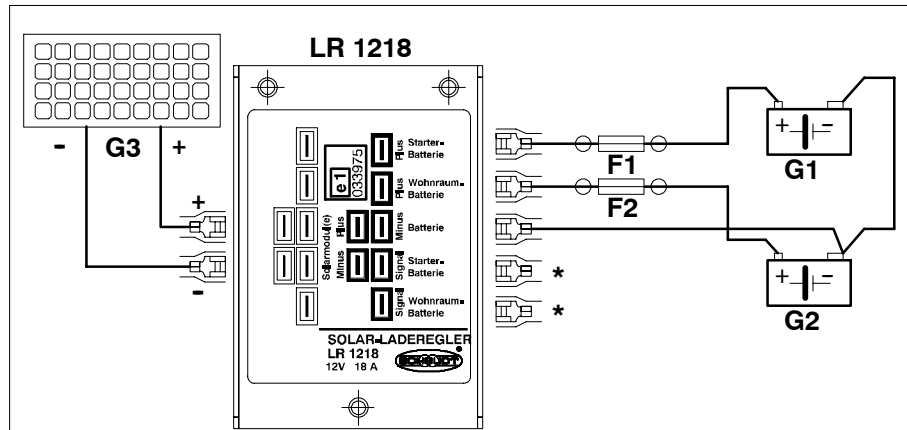

Fig. 2 Circuit diagram of connection LR 1218 to starter battery and living area battery
- ▶ 1. Connect the two fuse holders with fuses to the connection cable in accordance with the circuit diagram in Fig. 2. Use the flat push-on contacts (6.3 x 0.8) without sleeve for this (Fig. 1, Pos. 5). After crimping, attach the insulating sleeves (Fig. 1, Pos. 7). Insert the two fuses.